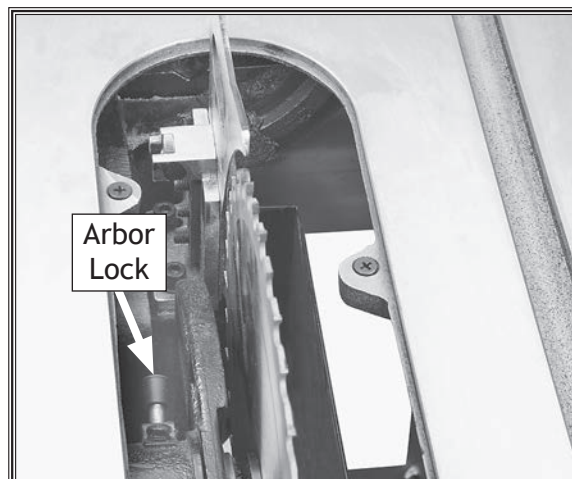

Figure 35. Arbor lock location.
3. Push the arbor lock in (see **Figure 35**) and turn the blade until it locks in place, then use the arbor wrench to loosen and remove the arbor nut, flange, and blade.